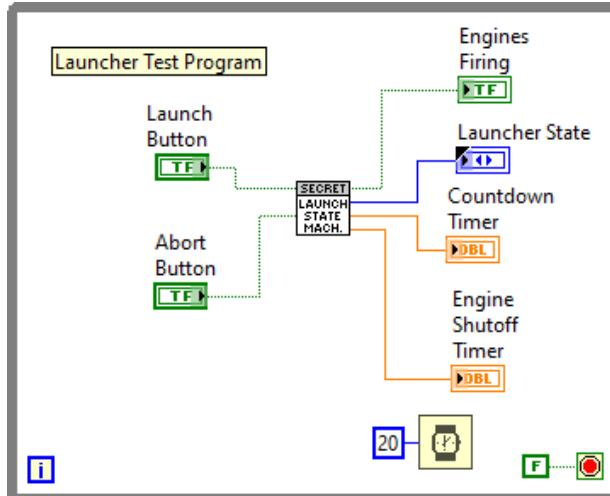

FIGURE 3.23 Test program for subroutine VI state machine
7. Write a separate test program with a similar front panel. Just copy the front panel from the subroutine VI. Add a never ending While Loop with a 20 millisecond wait. Place your controls and indicators inside the loop. Your test program should look like Fig. 3.23.